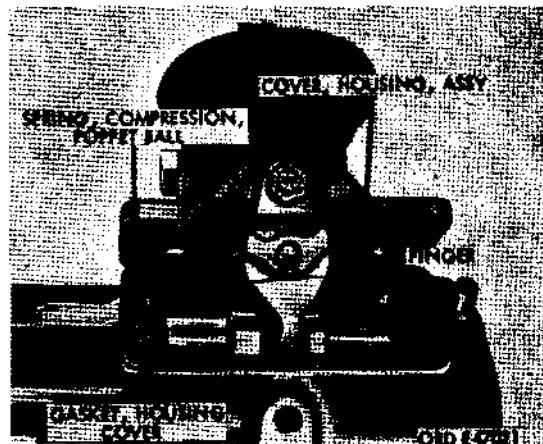

Figure 265. Removing housing cover assembly
- (b) Remove six cap screws and lockwashers securing housing cover assembly (fig. 265) to shifter housing, and lift off cover assembly.